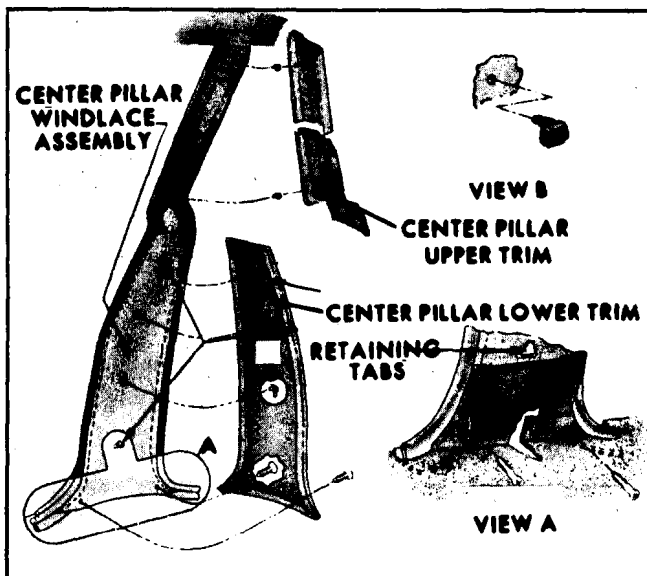

Fig. 13-28-Center Pillar Trim Attachment Typical Installation
- Remove center pillar upper trim by gently prying serrated attaching nails from center pillar (Fig. 13-28).